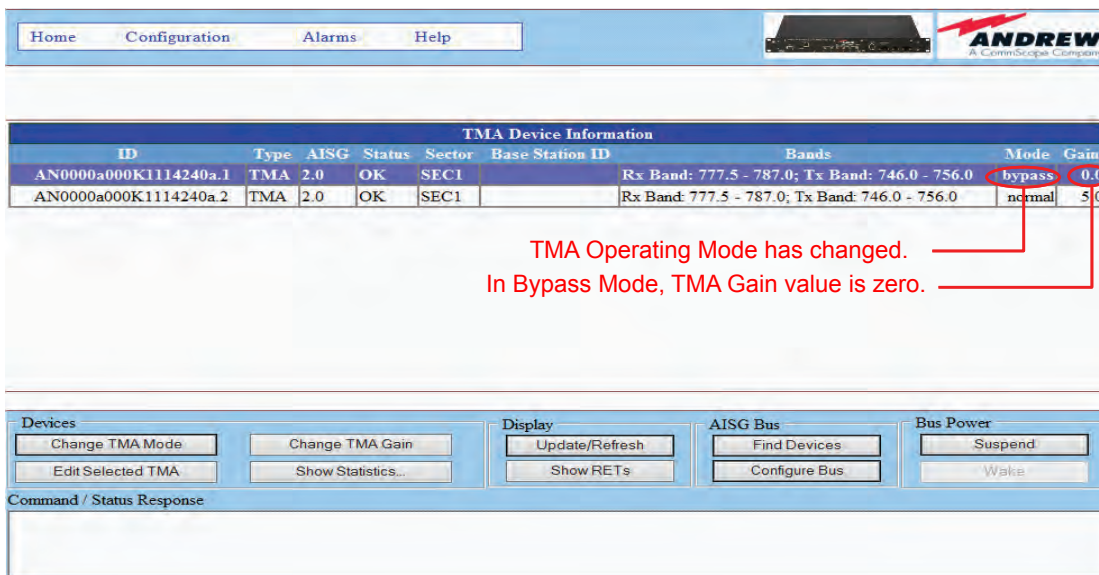

Figure 23-13. TMA Operating Mode has successfully been changed – Main Device Screen.
- Go back to the Home page and click on **Show TMAs**. The new operating mode will be reflected for the TMA in the Device Information list. (Figure 23-13) Also note that when a TMA is in Bypass Mode, its gain value is zero.